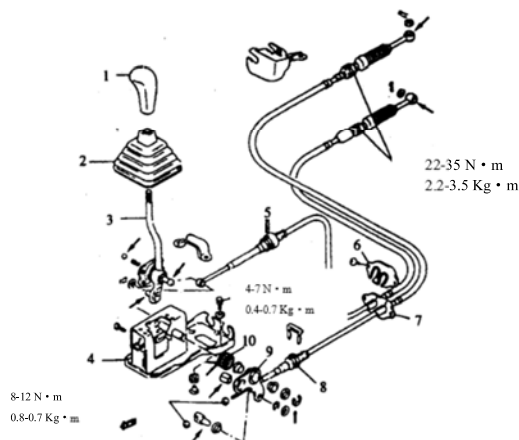
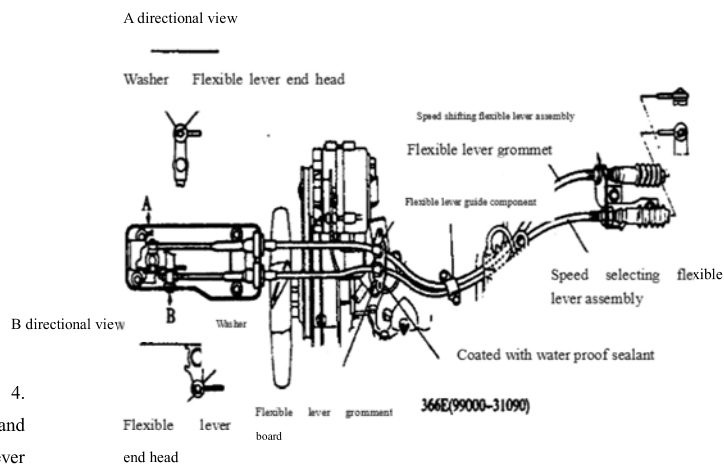

Fig.3.2-4
Fig.3.2-5
The installation position shall not be mixed when install the speed shifting flexible lever and speed selecting flexible lever to the transmission control lever or speed operating flexible lever. Please refer to Fig.3.2-4 and Fig.3.2-5 to ensure correct joint. Check whether the operation lever can flexibly selecting and shifting gears after the completion of installing all the components.
- Each lubricating part listed in Fig.3.2-4 must be checked before adjustment to ensure adequate lubrication and there exists no wearing on the lining and other components. Maintenance shall be made based on particular conditions.